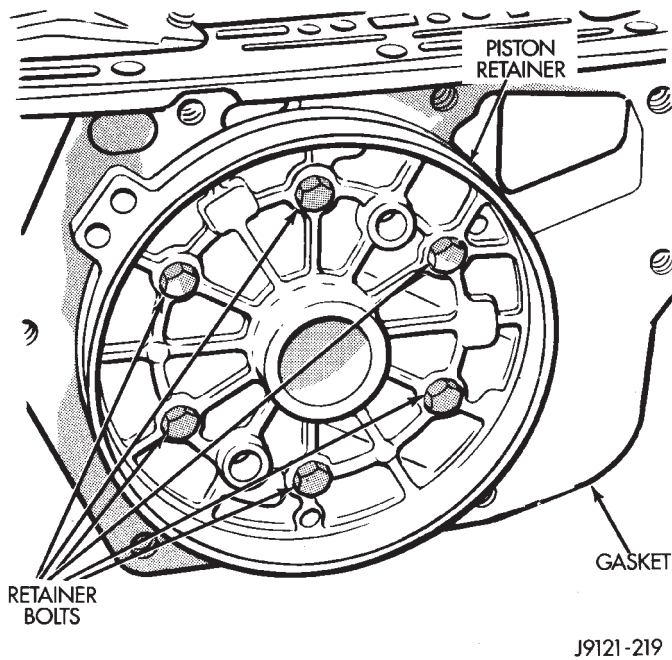

Fig. 146 Overdrive Piston Retainer Bolt Location
(37) Remove bolts attaching overdrive piston retainer to rear of case (Fig. 146). Then remove piston retainer and gasket.